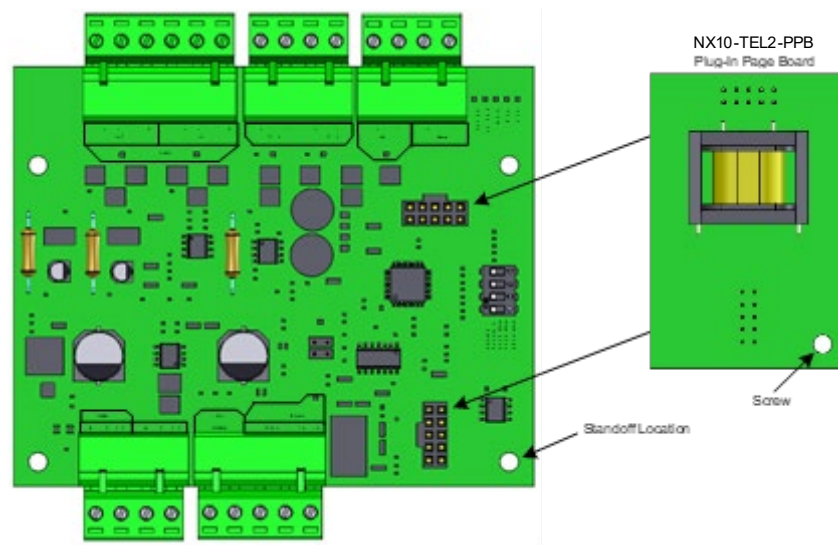

Figure 51 - NX10-TEL2-PPB Installation
3. With the nylon spacer installed, carefully plug the NX10-TEL2-PPB board's two (2) 10-pin male serial connectors (PL1 and PL2), located on the back of the board, into the two (2) 10-pin female serial connectors on the NX10-TEL2-RISE module (Figure 51).